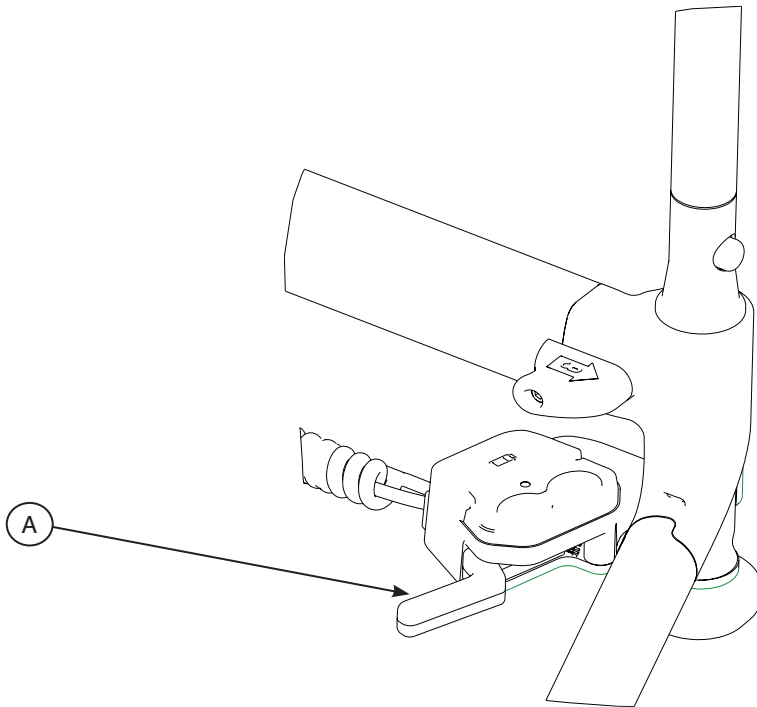

Figure 10 - Manual Release Handle
The **red** manual release lever (A) is located along the patient left side of the lift bar at the foot end of the cot (see Figure 10).